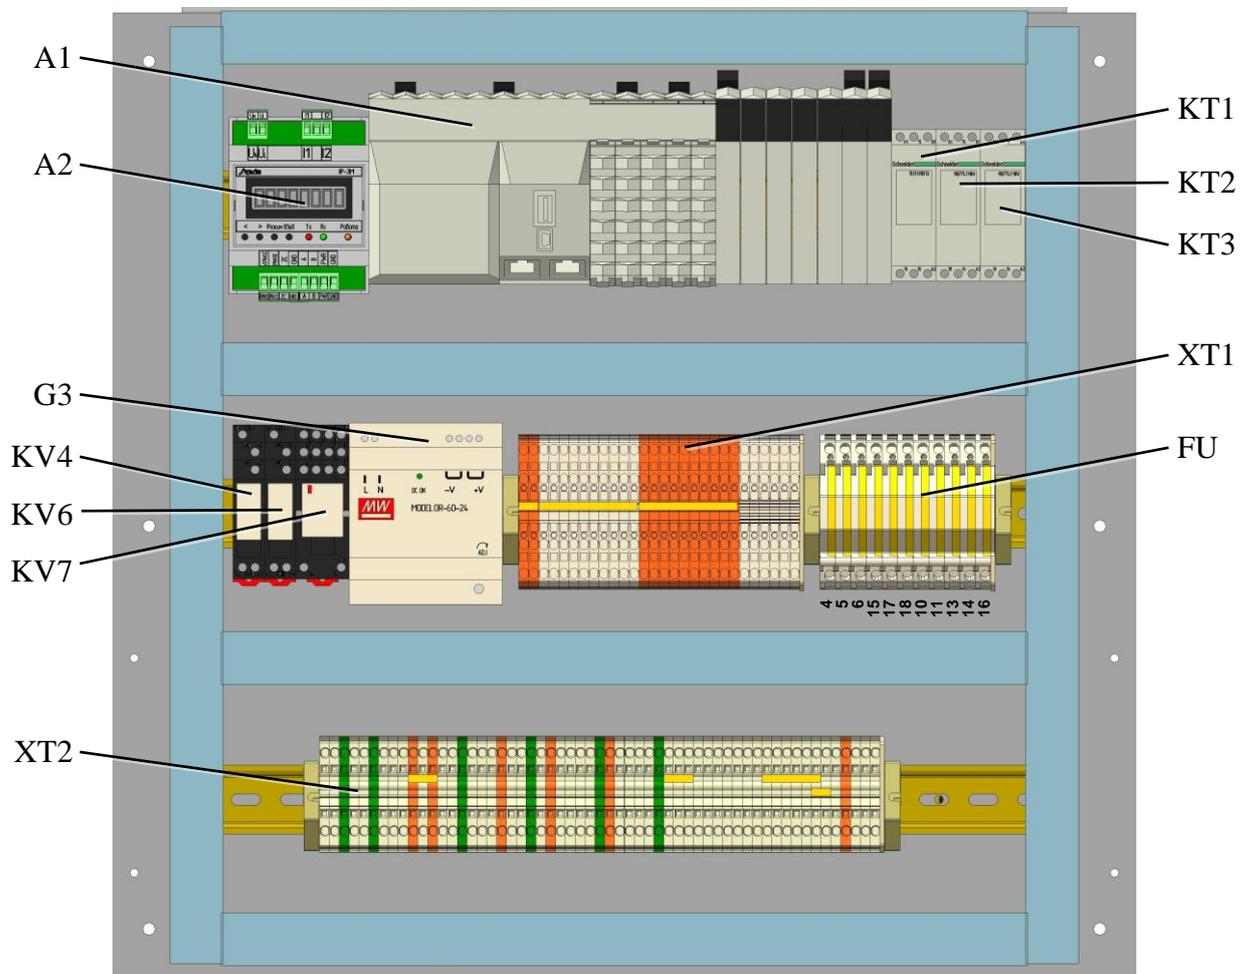

Fig. 3.3. The arrangement of equipment on the front mounting plate:
Green status LED ON with K4 vacuum valve opening. K4 vacuum valve opens automatically during a time defined by the KT1 time relay (Fig. 3.3) after switching OFF the forevacuum pump.
- ⊗ delay after switching ON the forevacuum pump is expired; it is defined by the KT2 time relay (Fig. 3.3).
Forevacuum pump line vacuum gauge switching ON status LED lights up if the power is ON and the FU13 fuse (Fig. 3.3) is serviceable.
- ✧ delay after switching ON the forevacuum pump is expired (it is defined by the KT2 time relay) (Fig. 3.3).
The crystallizer chamber vacuum gauge switching ON status LED lights up if the power is ON and the FU14 fuse (Fig. 3.3) is serviceable.
In the case of critical pressure drop of the fluid in the cooling system after the time defined by the KT3 relay (Fig. 3.3) the heater shuts down automatically.
The front mounting plate of the rack has a controller, measuring equipment, and low-voltage automation equipment. The arrangement of equipment on the front mounting plate is shown in Fig. 3.3: